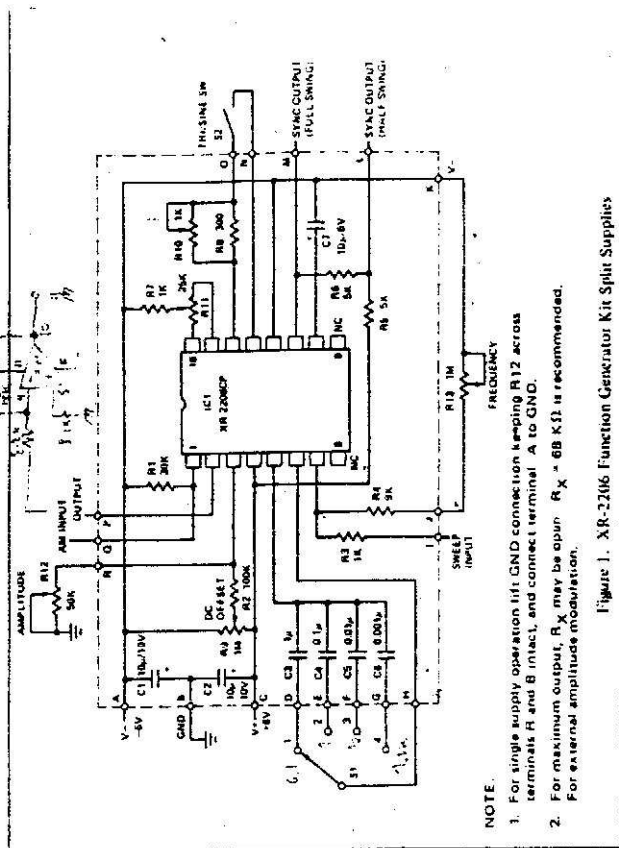

Figure 1. XR-2206 Function Generator Kit Split Supplies
b) **Frequency Setting**—At any range setting, frequency can be varied over a 100:1 tuning range with a potentiometer (See R13 of Fig. 1).
The above expression is accurate to within 5% at any range setting. The timing resistor R is the series combination of resistors R4 and R13 of Fig. 1. The timing capacitor C is any one of the capacitors C1 through C6 of Fig. 1.
d) **Sine and Triangle Output**—The sine and triangle output amplitudes are variable from 0V to 6 Vpp. The amplitude is set by an external potentiometer, R12 of Fig. 1. At any given amplitude setting, the triangle output amplitude is approximately twice as high as the sinewave output. The internal impedance of the output is 600Ω.
f) **Sync Output**—The sync output provides a 50% duty cycle pulse output with either full swing or upper half swing of the supply voltage depending on the choice of sync output terminals in the printed circuit board (See Fig. 1).
g) **Frequency Modulation (External Sweeps)**—Frequency can be modulated or swept by applying an external control voltage to sweep terminal (Terminal I of Fig. 1). When not used, this terminal should be left open or tied to the open circuit voltage of this terminal is approximately 3V above the negative supply voltage and its impedance is 1000 ohms.
h) **Amplitude Modulation (AM)**—The output amplitude varies linearly with modulation voltage applied to AM input (Terminal II of Fig. 1). The output amplitude reaches its minimum as the AM control voltage approaches the half of the total power supply voltage. The phase of the output signal reverses as the amplitude goes through its minimum value. The total dynamic range is approximately 55 dB with AM control voltage range of 4V referenced to the half of the total supply voltage. When not used, AM terminal should be left open or tied to the negative supply.
The following is a list of external circuit components necessary to provide the circuit interconnections shown in Fig. 1.